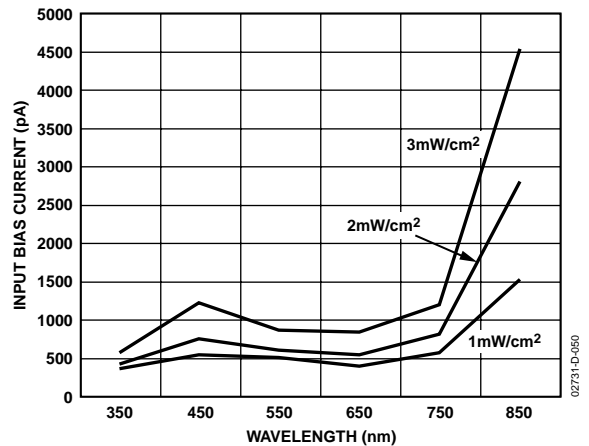

Figure 50. AD8605ACB Input Bias Current Response to Direct Illumination of Varying Intensity and Wavelength
The AD8605ACB (MicroCSP package option) is essentially a silicon die with additional post fabrication dielectric and intermetallic processing designed to contact solder bumps on the active side of the chip. With this package type, the die is exposed to ambient light and is subject to photoelectric effects. Light sensitivity analysis of the AD8605ACB mounted on standard PCB material reveals that only the input bias current (IB) parameter is impacted when the package is illuminated directly by high intensity light. No degradation in electrical performance is observed due to illumination by low intensity (0.1 mW/cm2) ambient light. Figure 50 shows that IB increases with increasing wavelength and intensity of incident light; IB can reach levels as high as 4500 pA at a light intensity of 3 mW/cm2 and a wavelength of 850 nm. The light intensities
shown in Figure 50 are not normal for most applications, i.e., even though direct sunlight can have intensities of 50 mW/cm2, office ambient light can be as low as 0.1 mW/cm2.